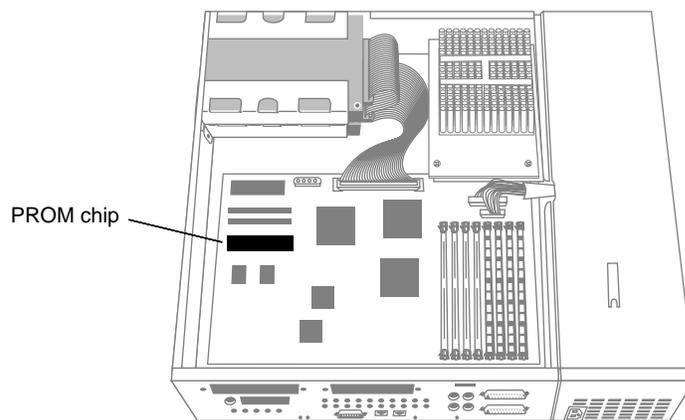

Figure 1-18 Locating the PROM Chip on the System Board
1. Locate the PROM chip. Facing the workstation from the rear, the PROM chip is located on the left of the system board, as shown in Figure 1-18.